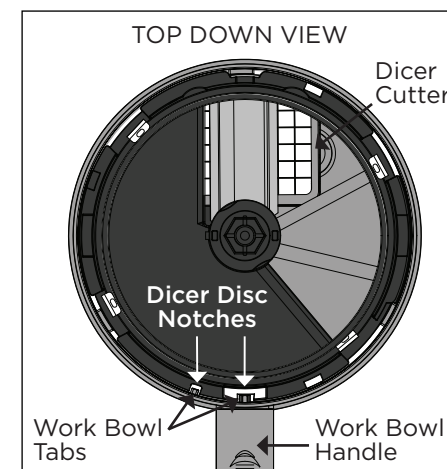

Figure 6
- 3 Place the assembled DICER into the WORK BOWL. The DICER CUTTER side should be opposite the WORK BOWL HANDLE, line up the notches in the assembled DICER with the two tabs in the WORK BOWL (see Figure 6).